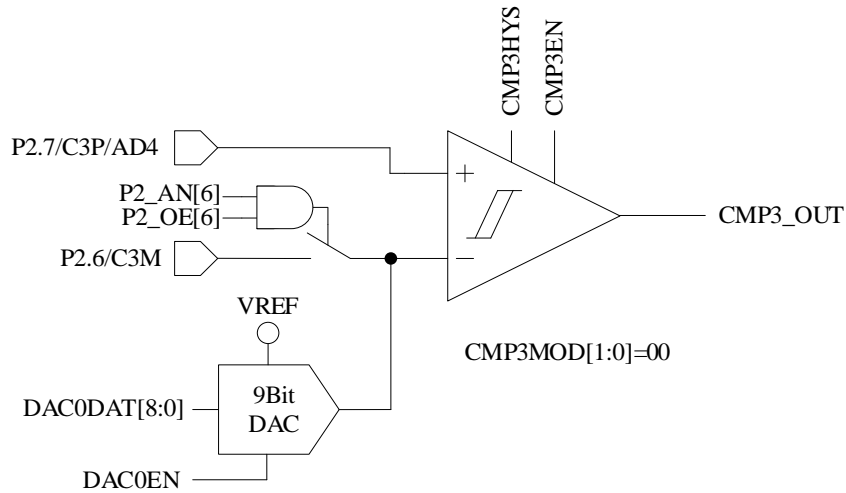

Figure 27-2 Single-comparator Input Mode
- When CMP_CR1[CMP3MOD] = 00, CMP3 works in Single-comparator Input Mode. The connection of input and output pins are shown in Figure 27-2.